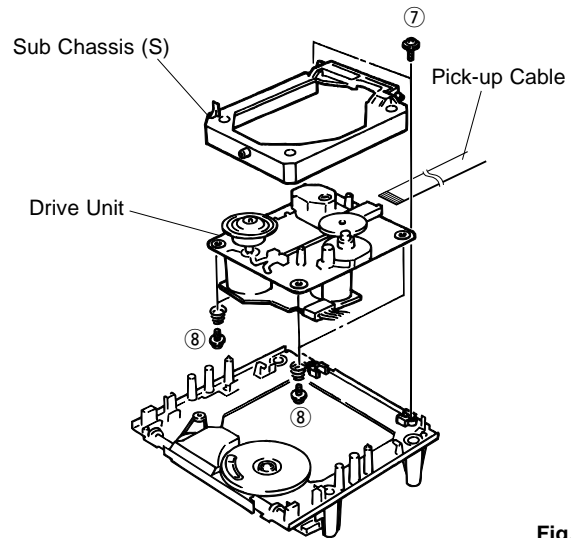

Fig. 4
- a. Remove 2 screws (⑦) in Fig. 4.
- b. Remove a pick-up cable in Fig. 4.
- c. Remove 4 screws (⑧) and then remove the Drive Unit in Fig. 4.